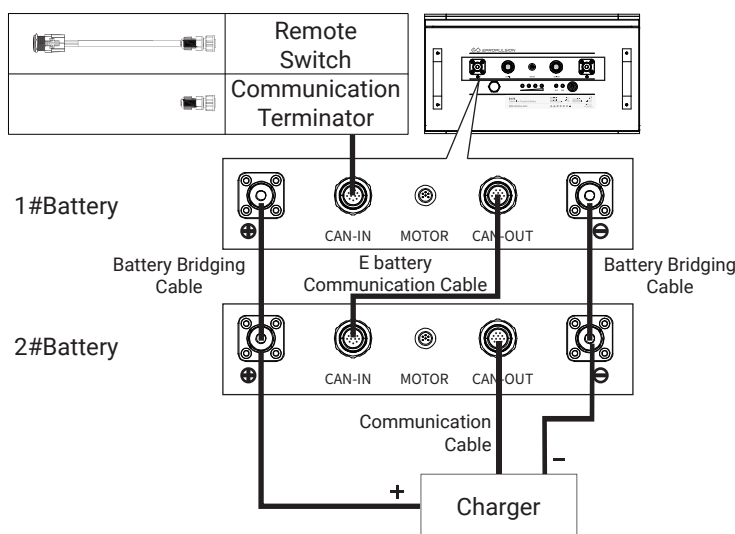

Figure 2-7
-  When charging parallel batteries, the charger should connect to a battery whose CAN-OUT port is not connect with the E battery communication cable (refer to the 2# battery in figure 2-7).